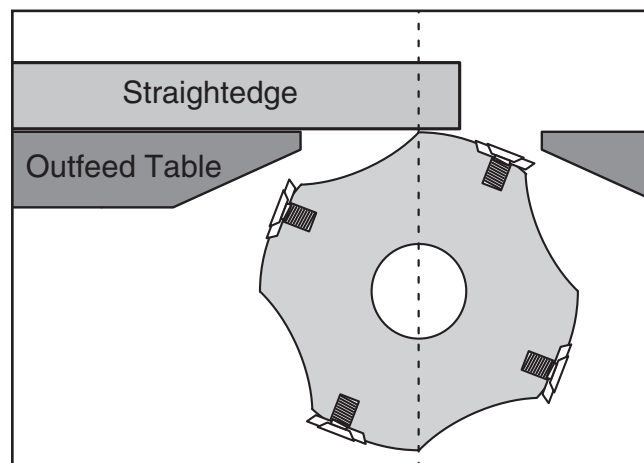

Figure 11. Checking cutterhead parallelism.
21. Using the straightedge and feeler gauge set, inspect the cutterhead parallelism with the outfeed table as shown in **Figure 11**. With the straightedge in position, raise or lower the outfeed table until the cutterhead body (not the carbide insert) just touches the straightedge.